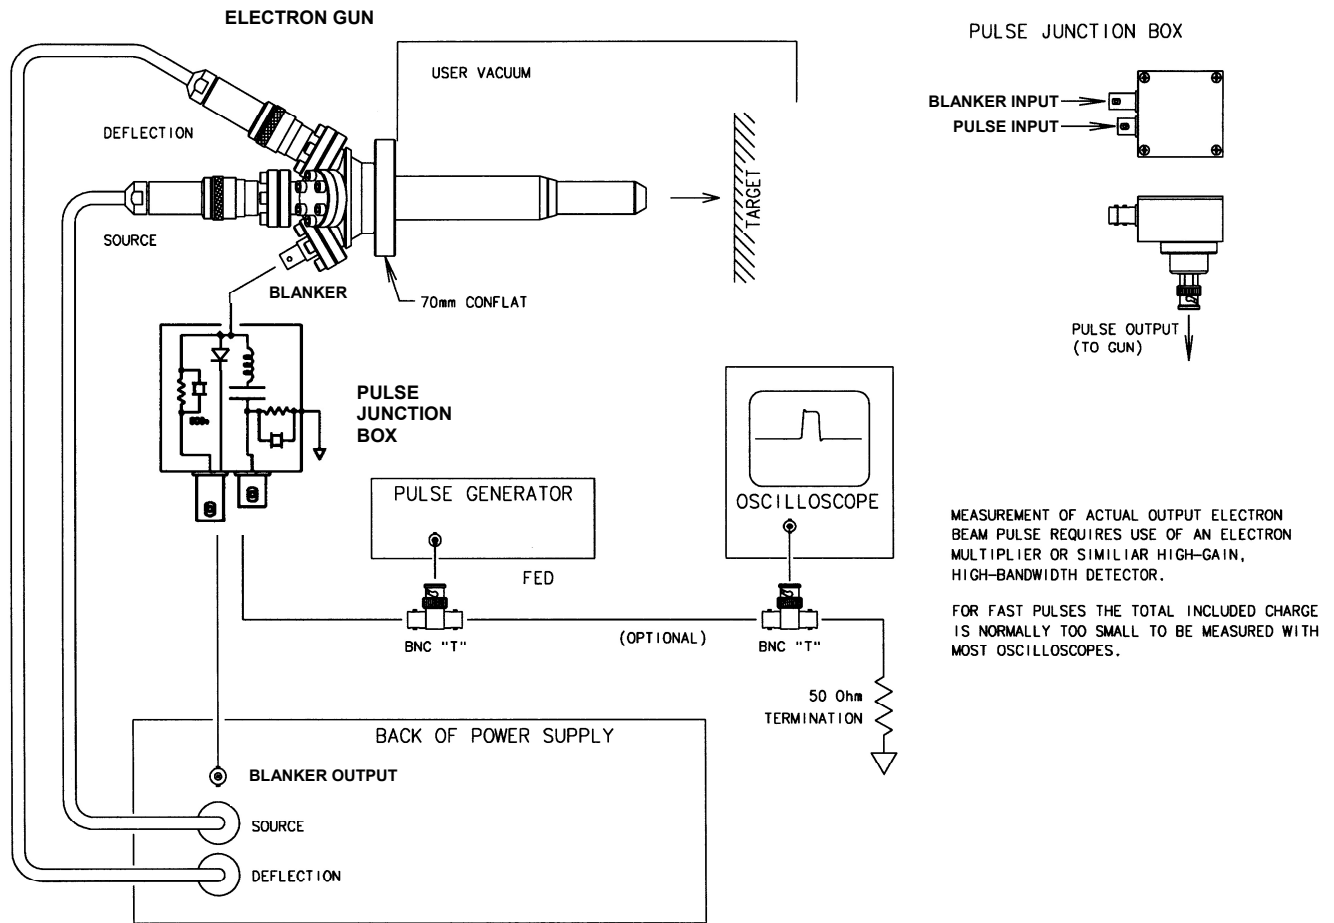

Fig. 4.9-6 Pulse Junction Box connections to gun, power supply and user-supplied equipment
1. See Fig. 4.9-6 below for a diagram of equipment layout. Also refer to the power supply and electron gun installation procedures in Sections 2.2 and 2.3.
4. Optional: Set up a user-supplied oscilloscope or other equipment to monitor pulsing; a terminating resistor may be needed. (Fig. 4.9-6)